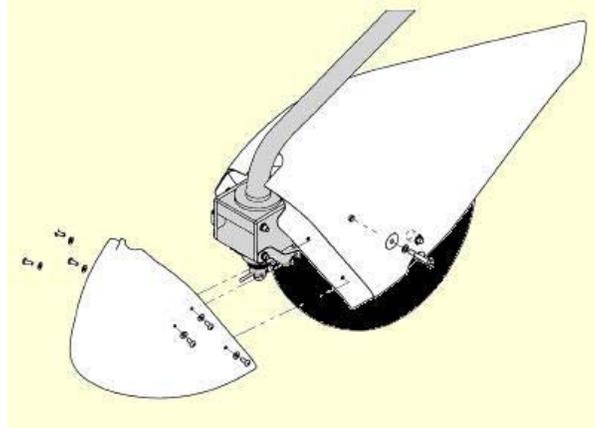

Figure 09-1 Exploded view of the Forward Wheel Fairing
1. Remove forward and aft nose gear fairing from nose gear assembly. See Figure 09-1 for an exploded view of the forward wheel fairing.